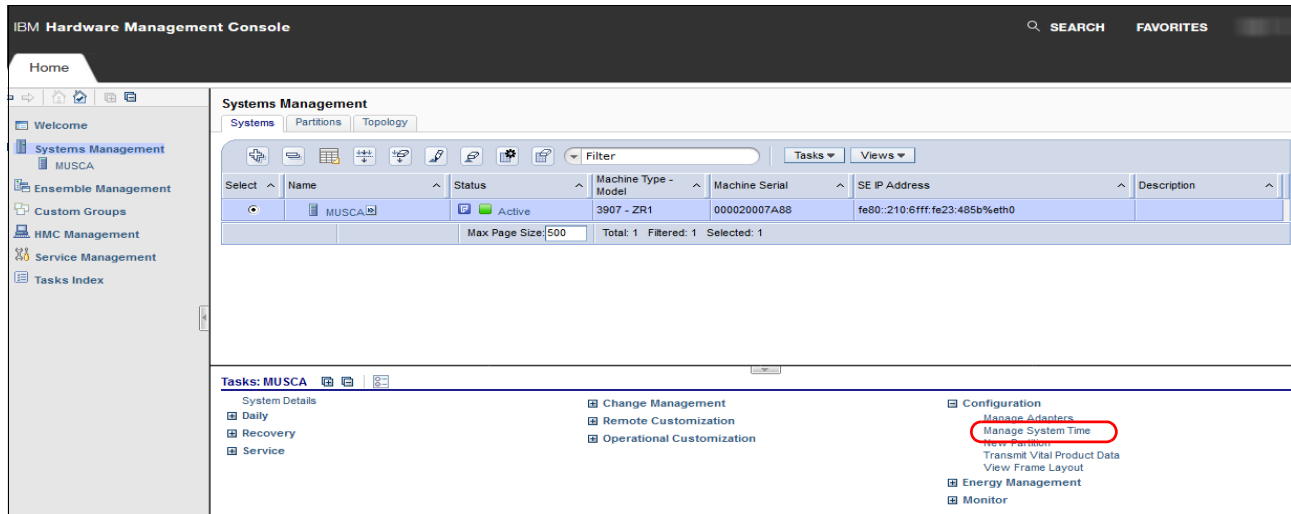

Figure 16-9 The Manage System Time task on the HMC
1. We continue STP configuration on the HMC by selecting the CPC and then clicking **Manage System Time**, as shown in Figure 16-9.